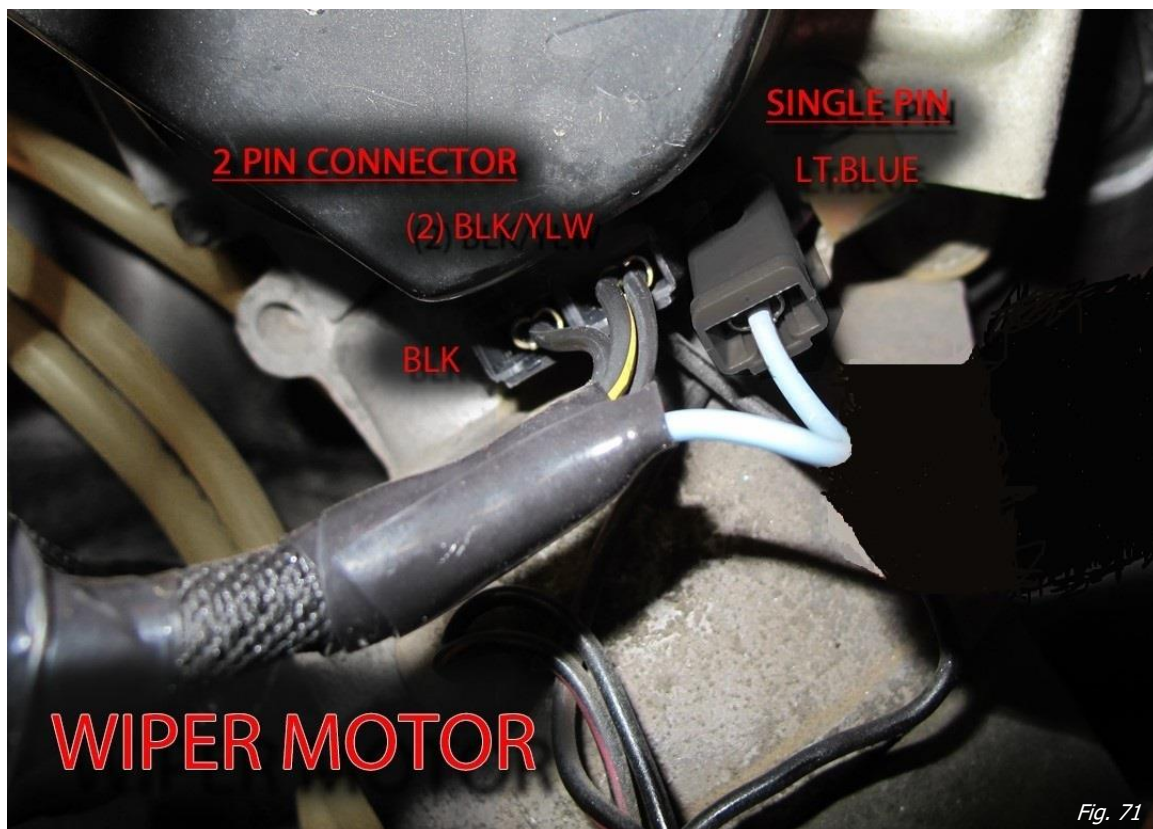

Fig. 71
- On the bottom side of the motor there are three tabs sticking out; these are the connection points for the Wiper Motor. Attach the two-pin connector to the tabs closest to the engine. The black wire should be on the bottom tab, the (2) black/yellow on the middle tab (see Fig. 71).
- Connect the single-pin connector with the light blue wire to the top tab (see Fig. 71).